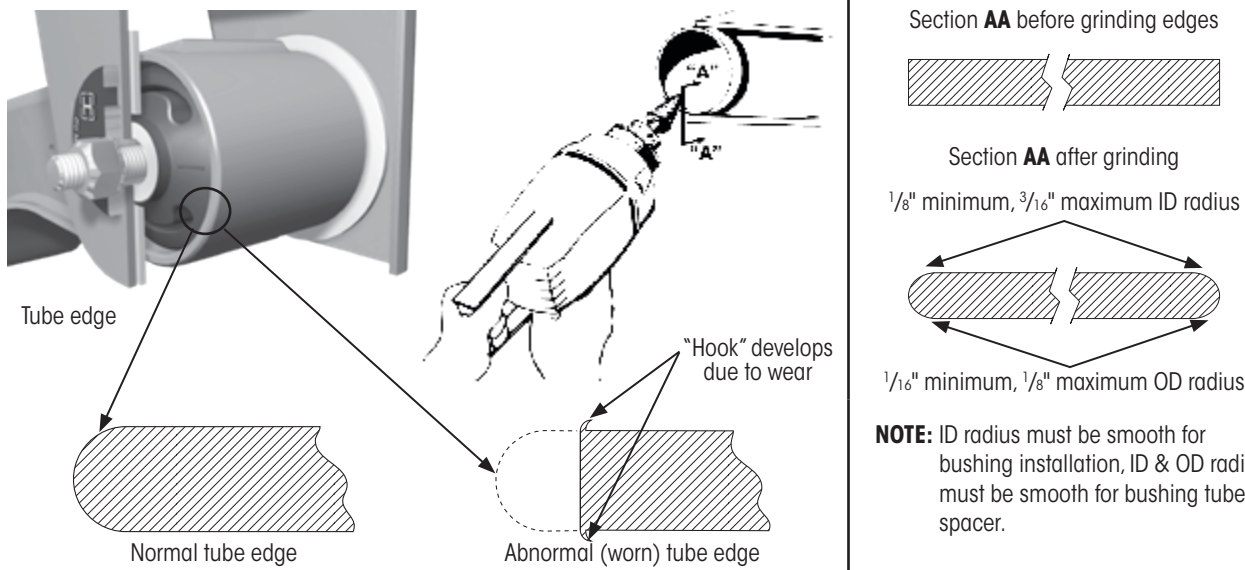

Figure 27: Bushing tube edge dressing
When the bushing tube wears, a slight “hook” or “tooth” of metal may develop on both inside and outside diameters of the tube (Figure 27). As the vehicle turns, the unique design of the TRI-FUNCTIONAL® Bushing allows it to elongate slightly to absorb the forces associated with road surface, load, etc. When the turn is complete and those particular forces are no longer present, the TRI-FUNCTIONAL Bushing returns to its original position. If the “hook” or “tooth” on the bushing tube is not removed, it can “bite” into the rubber TRI-FUNCTIONAL Bushing when elongated and hold or prevent it from returning to its original position, which is unacceptable. As this is repeated, the TRI-FUNCTIONAL Bushing can eventually be pulled out of the bushing tube. The rubber TRI-FUNCTIONAL Bushing may also become damaged by these irregular edges.
Before attempting to install a new bushing, the worn bushing tube edge must be dressed. Use a grinder to re-establish a radius on the edge of the bushing tube as shown in Figure 27 and using the following procedure.
3. **Remove** any burrs or sharp edges with a grinding tool (Figure 27).